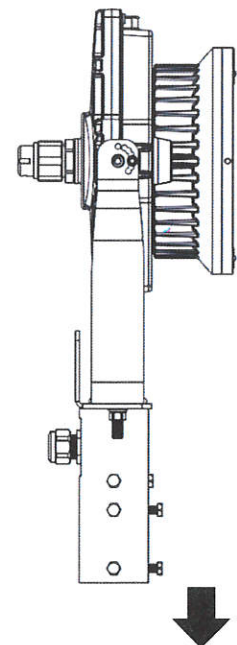

Figure 4
- The mounting type is for the use of 2 inch straight electrical tube mounting (Figure 4).